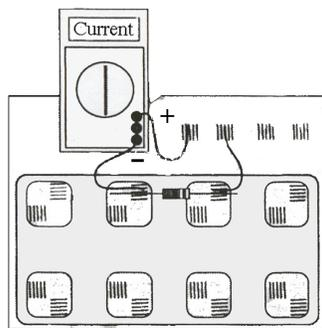

Figure 1
2. Construct the circuit shown in Figure 1 by pressing the leads of the resistor into two of the springs on the Circuit Board.